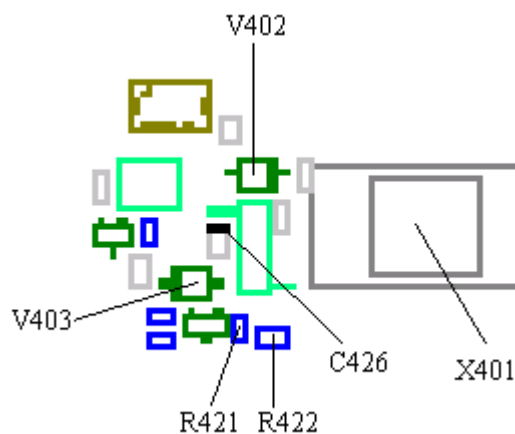
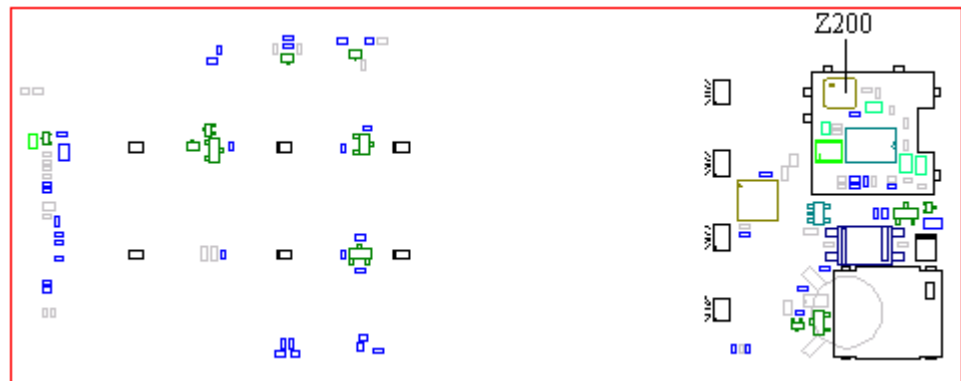

Fig. 2.2
Fig. 2.7
Check the antenna connector, X401 (class A, fig. 2.2), and make sure that it isn't damaged or dirty (glue, varnish, oxide...) and that the solderings aren't faulty.
Measure the resistance from C426 (fig. 2.2, measure from the marked side) to ground ($>1\text{ Mohms}$). The resistance is usually only a few ohms when Z200 (class B, fig. 2.7) is broken.
Measure the resistance from the anode of V403 (class B, fig. 2.2) to ground ($\sim 60\text{ kohms}$).
- If the resistance is still too low, measure the resistance of R421 and R422 (both of class B, 100 kohms , fig. 2.2). Both the resistors are 100 kohms but when you measure them the instrument will show $\sim 60\text{ kohms}$.